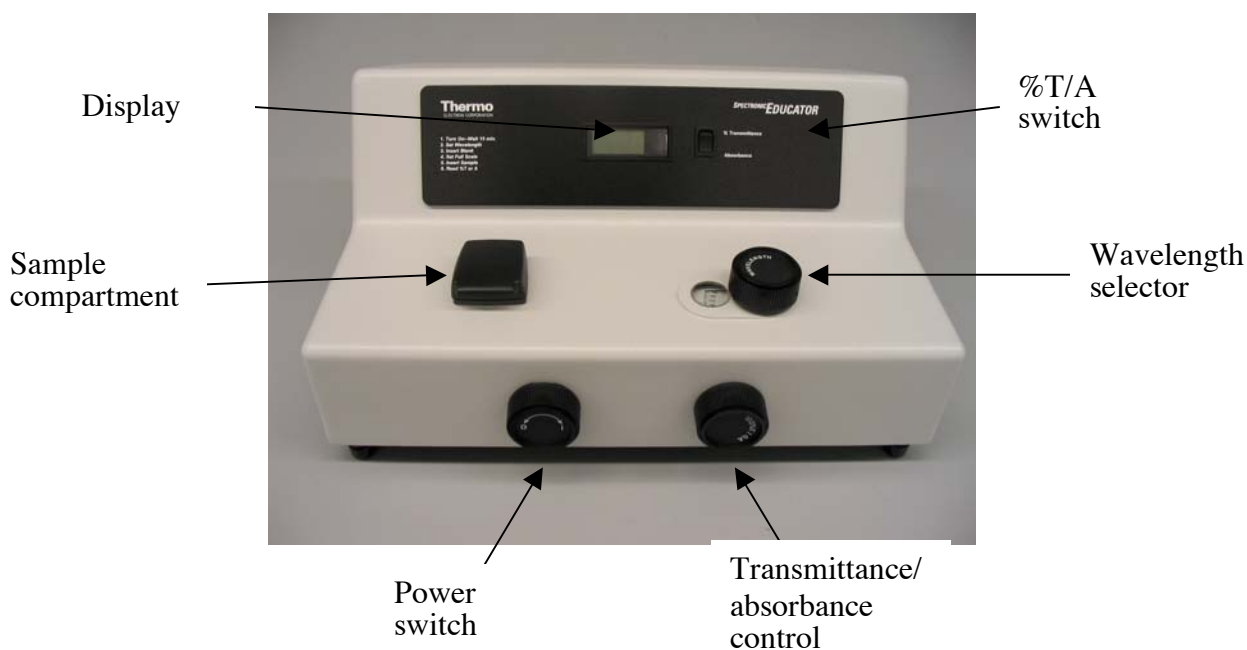

Figure 1. Spectronic Educator
1. Turn the power on by turning the Power Switch (front left side, fig 1). Allow at least a 15-minute warm up period before taking readings.